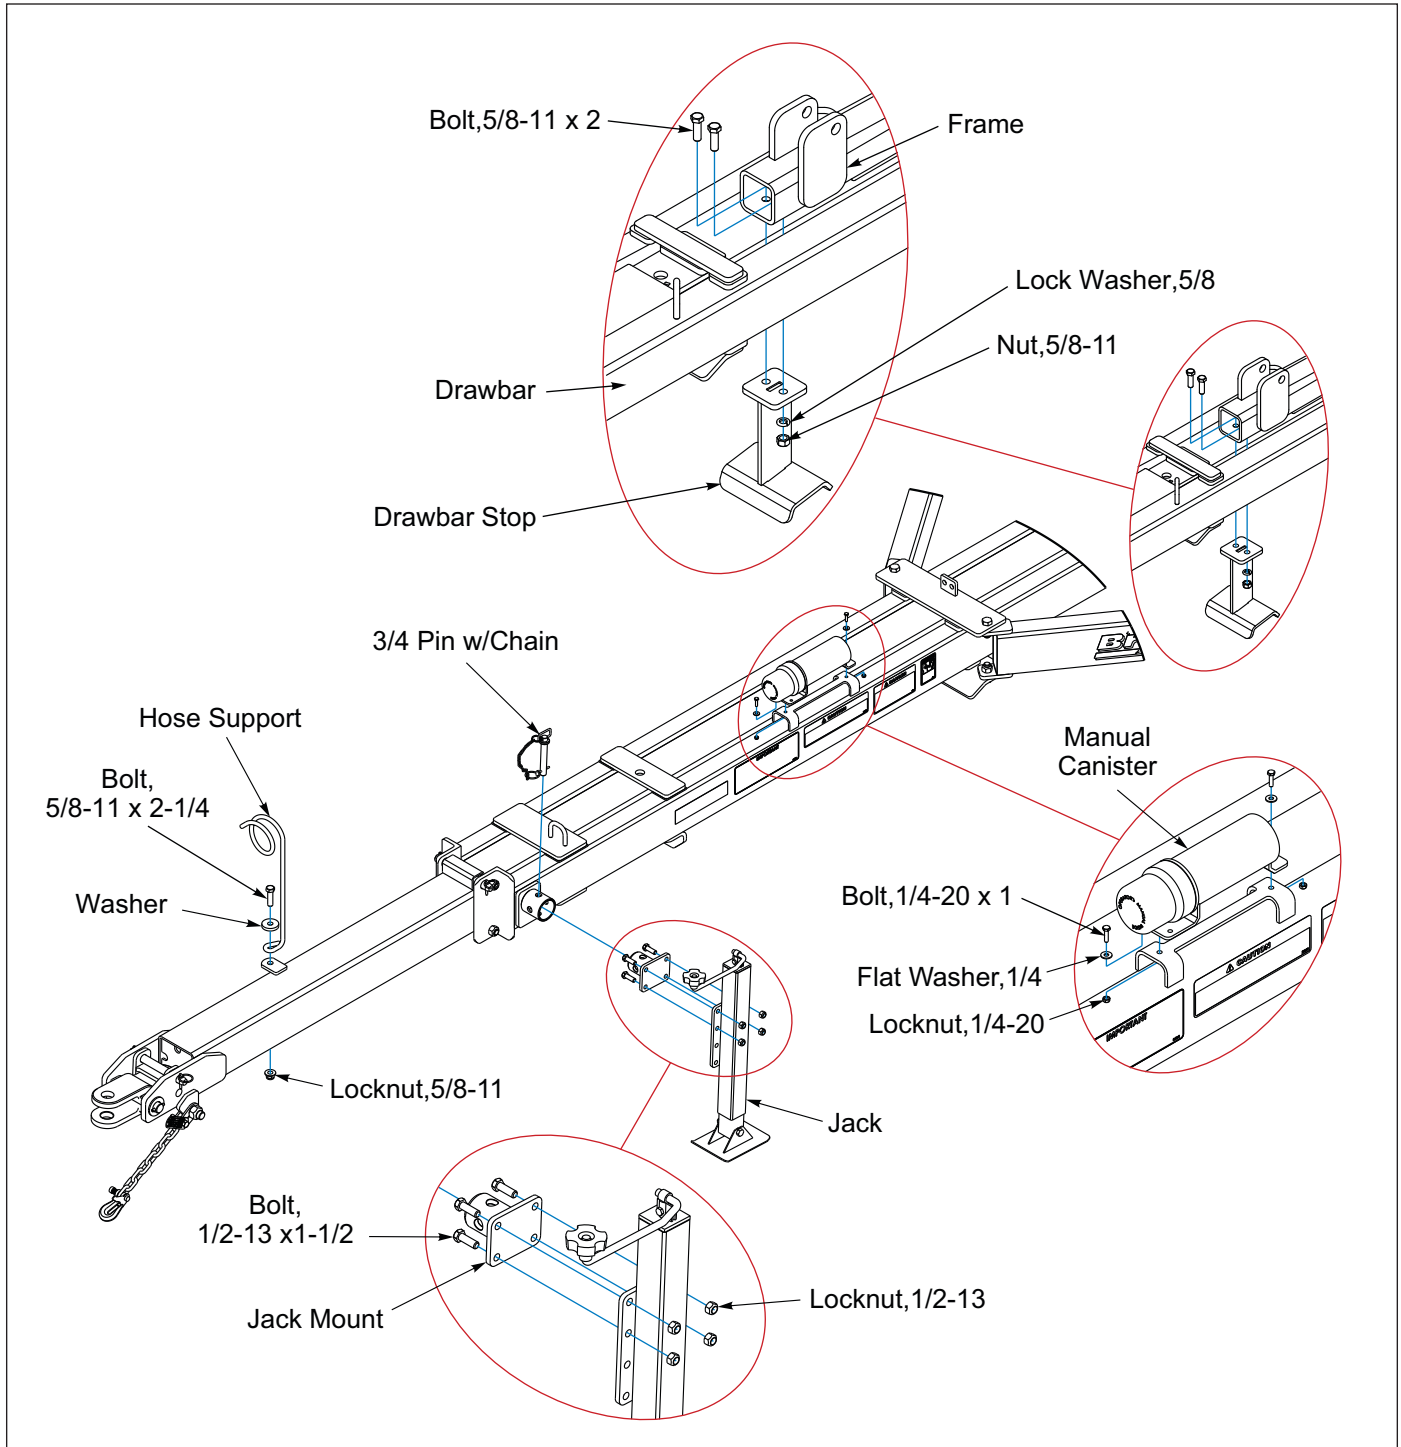

Figure 2-8: Drawbar Components
1. Attach the Manual Canister on the top of the Drawbar Bracket with 1/4-20 x 1, Bolts, Flat Washers and Locknuts. **See Figure 2-8.**